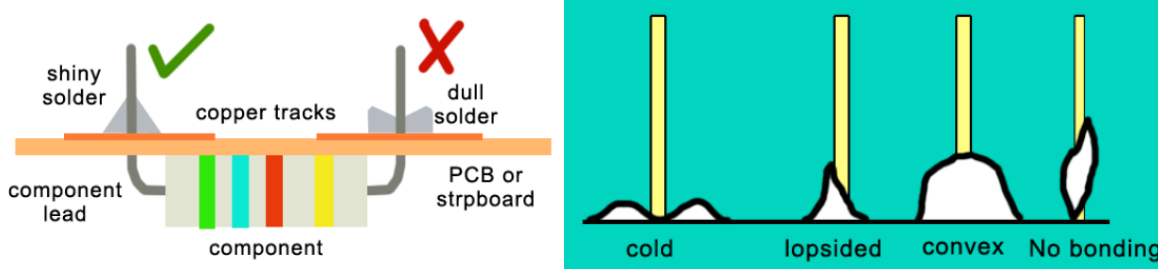

Figure 1. Examples of good and poor soldering technique (left) and typical bad or ‘dry’ joints when the component lead was not hot enough (right).
- d. Don't move the joint for a few seconds to allow the solder to solidify (blowing gently will speed cooling). If the joint moves before it has cooled, the solder will not form a strong connection and a “dry joint” (see figure 1) can be formed. Dry joints can be fixed by re-soldering, adding a little more solder.